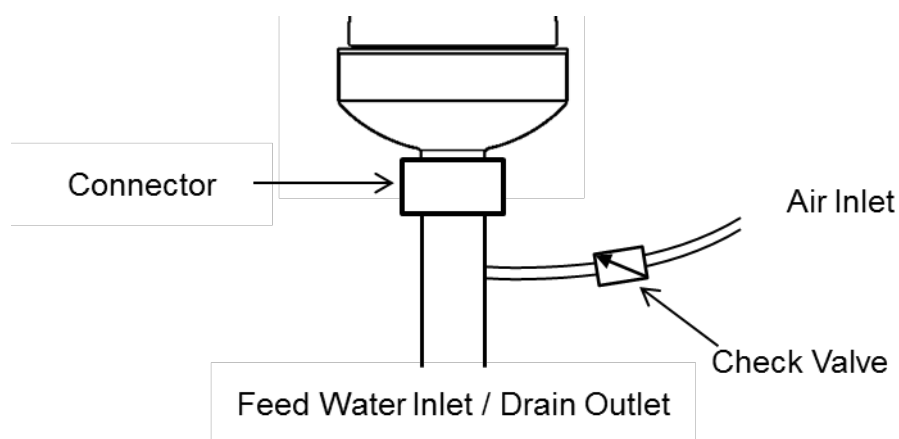

Fig. 3. Typical example of the air pipe installation
6. Air inject should be located just beneath the bottom nozzle of the module to inlet air completely to the module. Also, a check valve is necessary to the air piping to avoid water reverse flow (see Fig. 3).